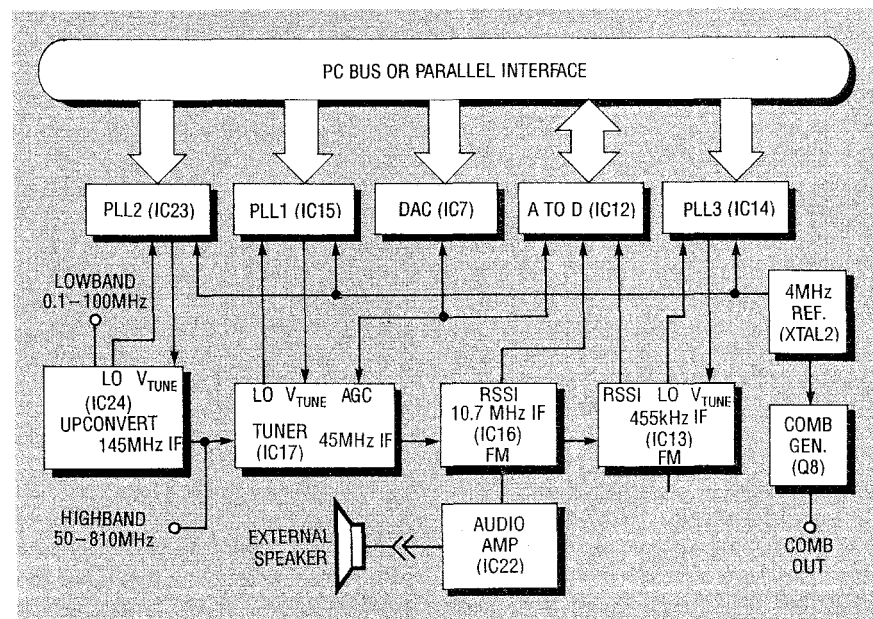
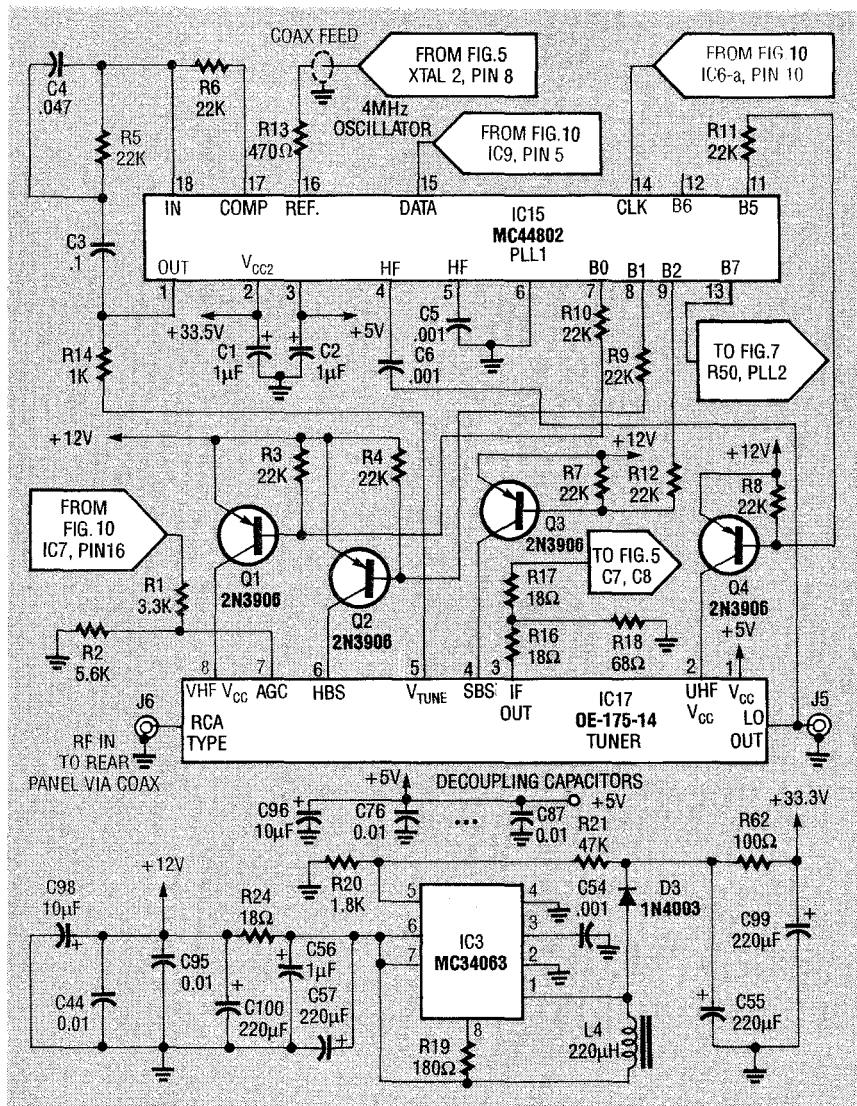

FIG. 3—A BLOCK DIAGRAM OF THE SPECTRUM ANALYZER shows the tuner module, phase-locked loops, receiver blocks, DAC, ADC, and the PC bus connection.
FIG. 4—THE FIRST 45-MHz IF STAGE. The tuner takes highband inputs from 50–810 MHz and converts them to 45 MHz.
Figure 3 shows the overall block diagram of the spectrum analyzer. At the heart of the unit is a Zenith tuner module (IC17). The tuner takes highband inputs from 50 to 810 MHz and converts them to a 45-MHz IF, which is the first IF stage. After that conversion, the first of two Signetics NE615 receiver IC's (IC16) down-converts the 45-MHz IF to a 10.7-MHz IF, which is the second IF stage. The 10.7-MHz IF is tapped off and sent to another NE615 (IC13) where the 10.7-MHz is downconverted to the standard 455-kHz IF, which is the third IF stage.
Figure 4 shows the circuit of the first 45-MHz IF stage. Of the four local oscillator's (LO's) used, three are phased-locked using Motorola's MC44802 IC (IC14, IC15, and IC23). The LO for the 10.7-MHz IF is crystal-controlled by XTAL1. The PLL's used for the tuner IC also perform band switching, which will be discussed in more detail below. Those PLL's are self contained and have a serial interface. A 4-MHz crystal oscillator (XTAL2, Fig. 5) is used as a common reference for all the PLL's, as indicated in the block diagram (Fig. 3).
As shown in the block diagram (Fig. 3), an 8-bit DAC (IC7) controls the automatic gain control (AGC) input of the tuner. AGC cancels out gain variations and provides signal attenuation. An 8-bit shift register (IC8) is used to provide IC7 with a serial interface to the host PC.
width, follows the mixer. The local oscillator (LO) must be 45 MHz above the input signal to mix to the 45-MHz IF. For the 50 to 810-MHz bandwidth, the tuner VCO must have a range of 95 to 855 MHz. The LO from the tuner is internally buffered and is sent to PLL1 (IC15, Fig. 4) for frequency locking.
The 45-MHz IF is fed through a 6-dB attenuation pad (R16–R18, Fig. 4) and a tuned circuit to the mixer for the 10.7-MHz IF. The attenuation pad is used to reduce signal gain from the tuner and to provide a wide-band termination for the output of the tuner mixer. The tuned circuit, consisting of L1, C8, and C7 (as seen in Fig. 5), acts to match impedance, filter, and to adjust the voltage gain. The tuning of L1 (Fig. 5) affects the overall gain and noise floor of